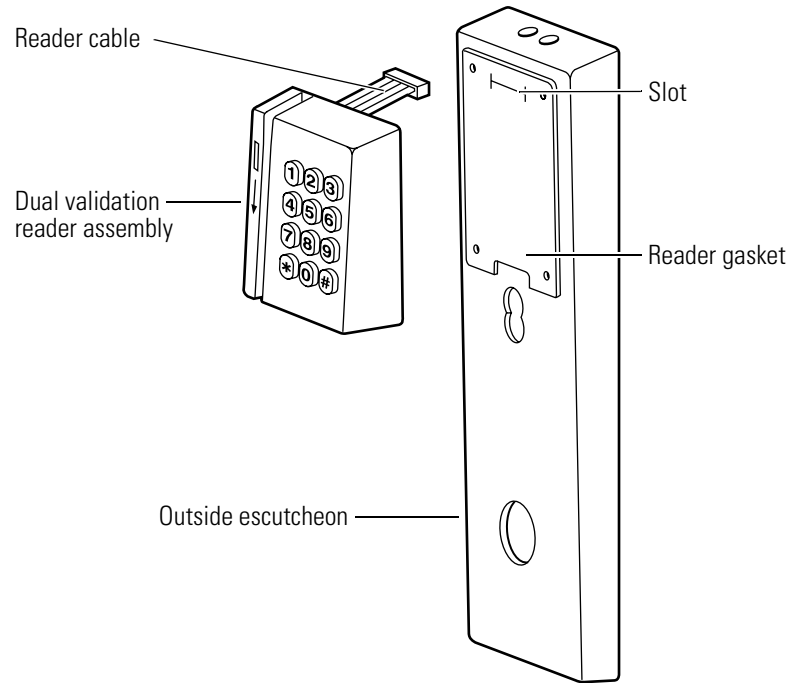

Figure 9.22 Positioning the dual validation reader assembly
1. Orient the dual validation reader assembly and insert the reader cable through the slot in the outside escutcheon. See Figure 9.22.